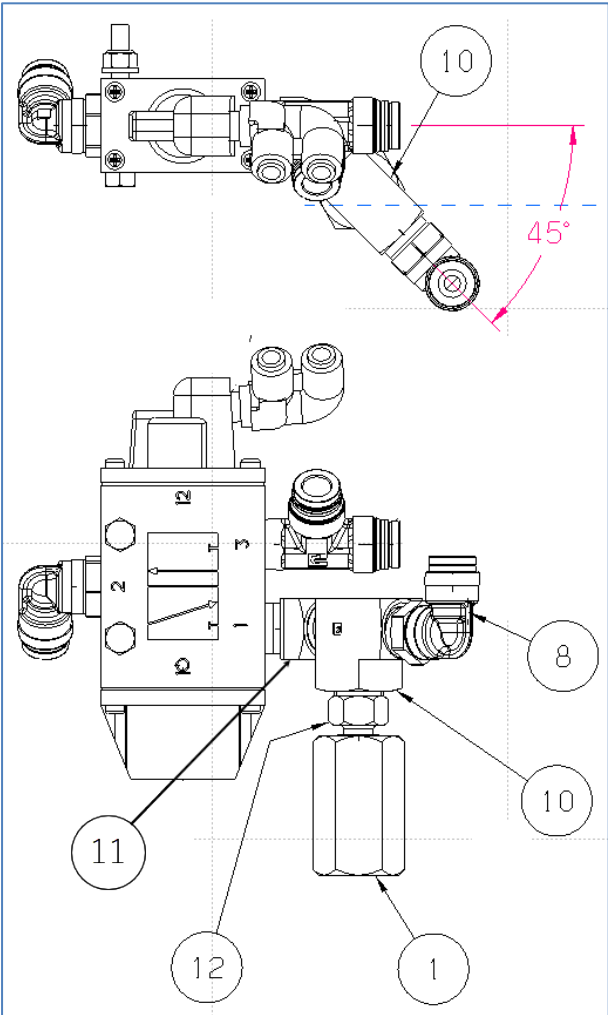

Figure 11
12) On the valve body, install the following components (refer to Figure 11).
- item 11: elbow 501330
- item 10: Tee 501699
- item 12: adapter 140521
- item 1: non-return valve 21551555
- item 8: elbow (previously removed)